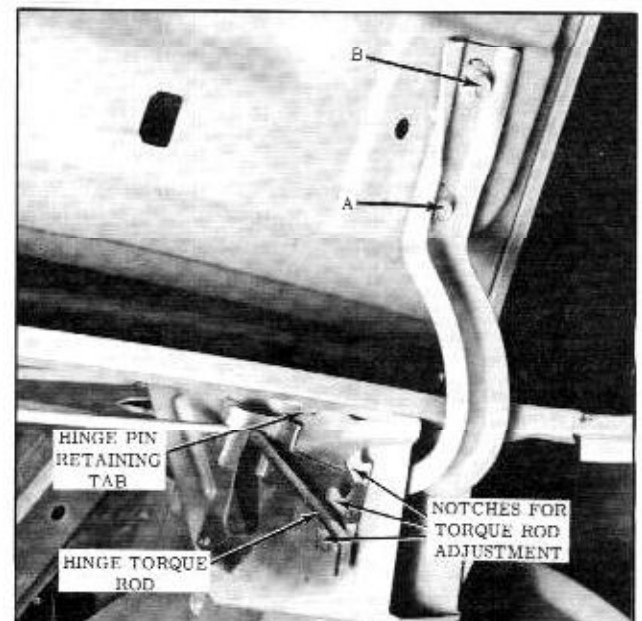

Fig. 15-46 Back Door Hinge and Torque Rod
3. With aid of a helper to hold lid, remove lid attaching bolts "A" and "B", Fig. 15-46, at both hinge straps and remove rear compartment lid.
1. To adjust compartment lid forward or rearward or from side to side in body opening, loosen hinge strap attaching bolts "A" and "B", Fig. 15-46, on both sides of lid, adjust lid as required, then tighten bolts.
- a. To raise front edge of lid, place shim(s) between lid inner panel and forward portion of one or both hinge straps at "A", Fig. 15-46.
- b. To lower front edge of lid, place shim(s) between lid inner panel and rear portion of one or both hinge straps at "B", (Fig. 15-46)
The amount of effort required to open and close the rear compartment lid is determined by the position of the torque rods in the notches on the inboard face of the hinge boxes. (Fig. 15-46) If the torque rod is located in the lowest notch the effort required to open the lid is the greatest and the amount of effort required to close the lid is the least. If the torque rod is located in the top notch, the amount of effort required to open the lid is the least and the amount of effort to close the lid is the greatest.
3. Scribe location of hinge strap on lid inner panel and remove bolts "A" and "B", (Fig. 15-46), securing hinge strap to lid.